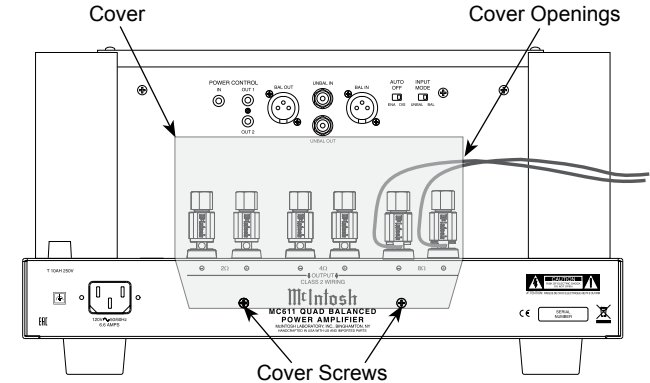

Figure 6 (Outside USA and Canada)
13. Locate the Terminal Connections Cover from the inside of the MC611 shipping carton. Insert the just prepared Loudspeaker hookup cables thru the cover opening on the right side. Refer to figure 6.
*Note: The illustration in figure 6 is connections for 8Ω (ohms) Loudspeakers.*
15. Attach the Terminal Connections Cover to the MC611 Rear Panel with the previously removed Screws. Refer to figure 6.